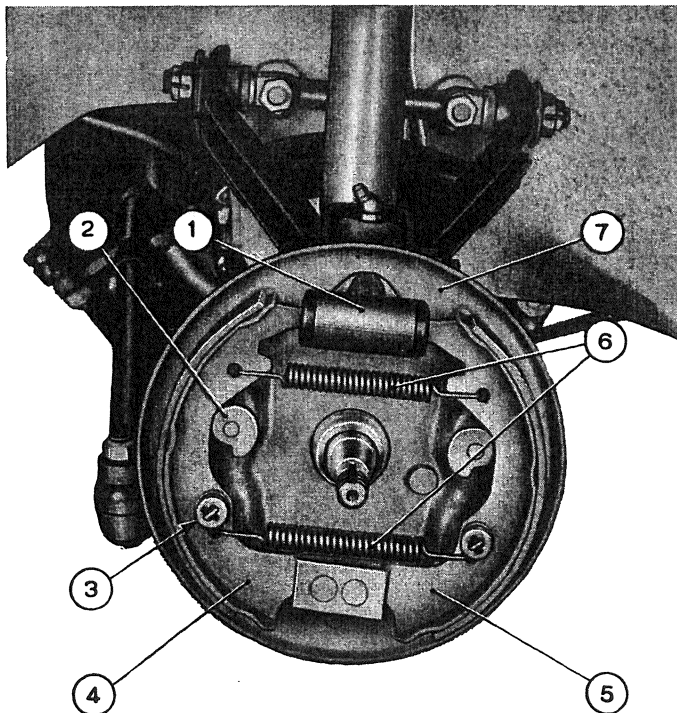
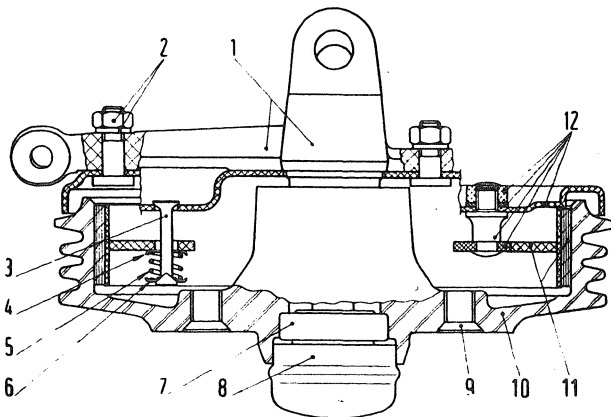

Fig. 360 - Left-hand front brake housing flange, « Sedan », (with self-centering shoes).
Fig. 363 - Sectional view through left-hand front wheel hub, «Sedan», (with self-centering shoes).
Check the pin (3, fig. 363) for free sliding in the shoe seat, the shoe spring (5) for a sagged condition and the inner and outer cups for distortion. Replace damaged parts.
Self-centering shoe brakes do not demand any adjusting operation for center which, as a matter of fact, is automatically assured through the use of brakes, inasmuch as brake shoes are not mounted on fixed-type anchor pins, but merely on a guide pin and spring (fig. 363) allowing for slight radial movements, and rest on a lower plate (fig. 360).